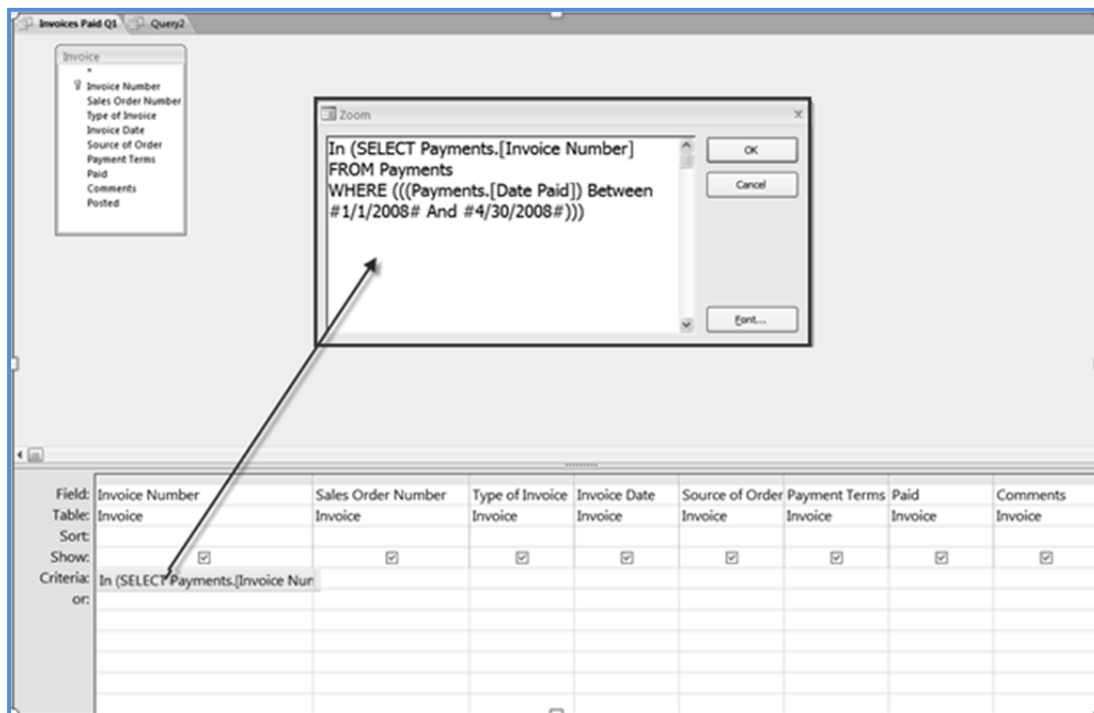

Fig. 1.2.10: Write subquery in Criteria
9. In the **Criteria** tab of *Invoice Number* column, type **IN()** and paste the copied query within the braces. The Query window appears, as shown in Fig. 1.2.10.